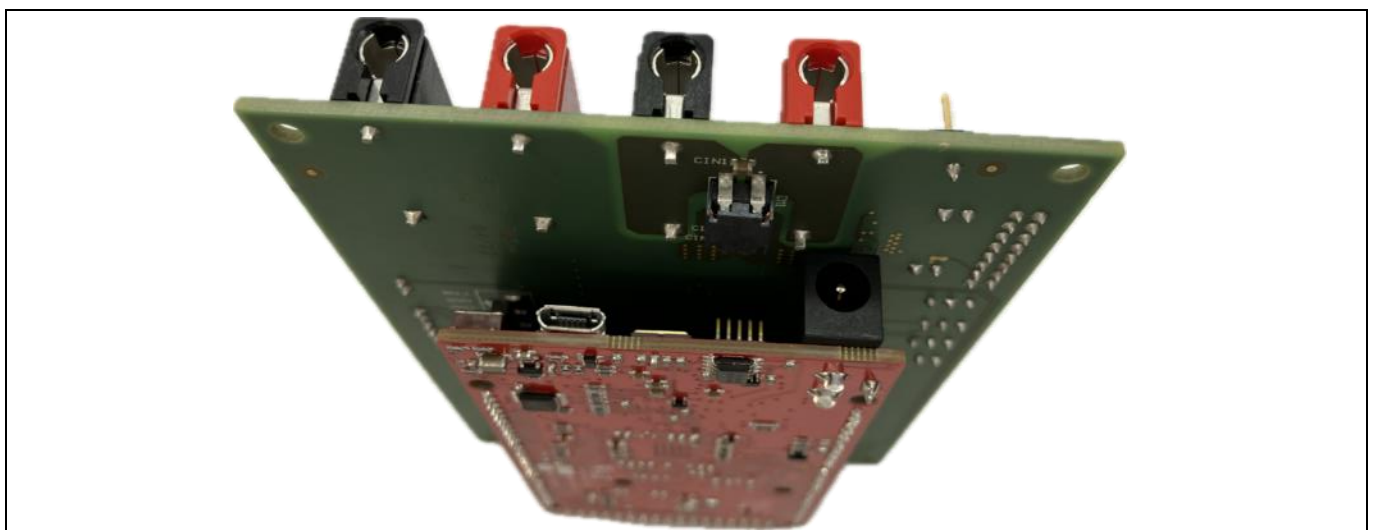

Figure 3 Evaluation board mounted on top of the AURIX™ Shield Buddy
8. Mount the TLF4D985 BOARD on top of the Aurix™ Shield Buddy (see Figure 3)